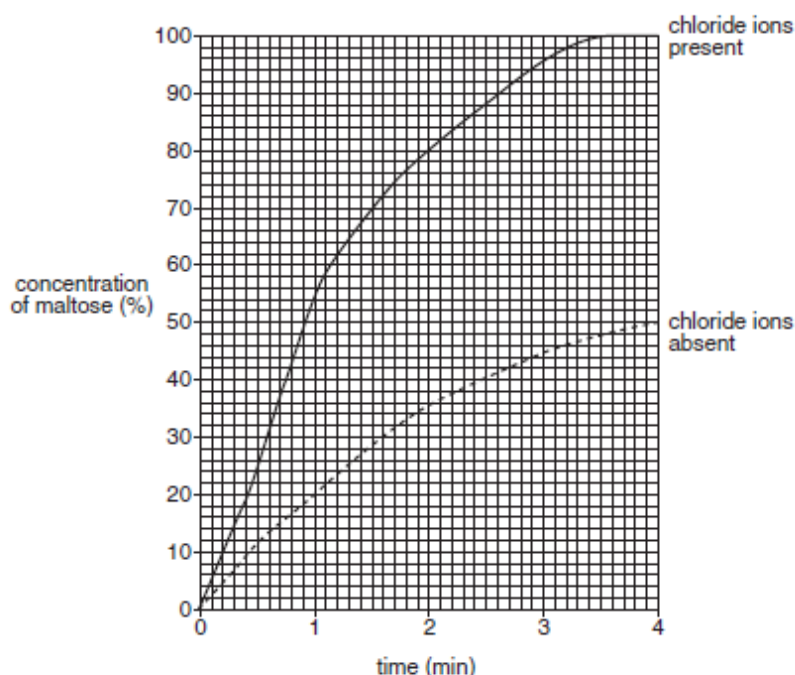

Fig. 2.2
- (c) Fig. 2.2 shows the results that the student obtained from a practical procedure in which the rate of formation of maltose was measured in the presence and absence of chloride ions.